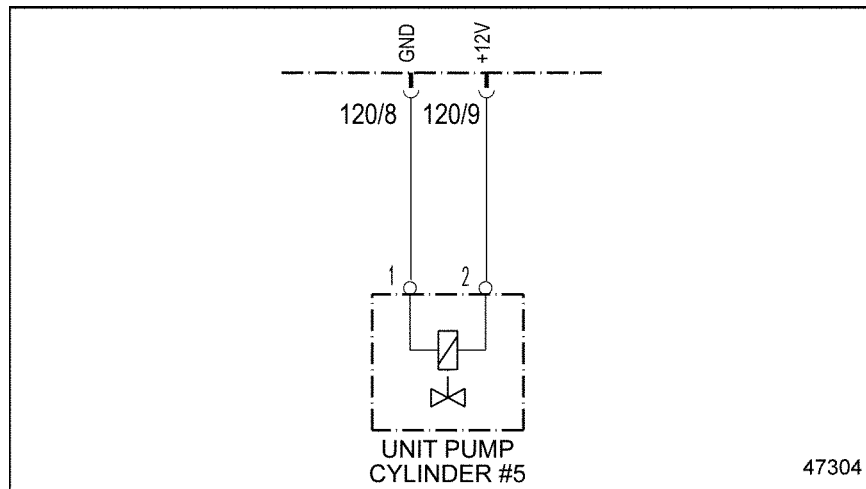

Figure 49-2 Electronic Unit Pump #5
3. Disconnect pins 1 and 2 of Electronic Unit Pump #5. See Figure 49-2.